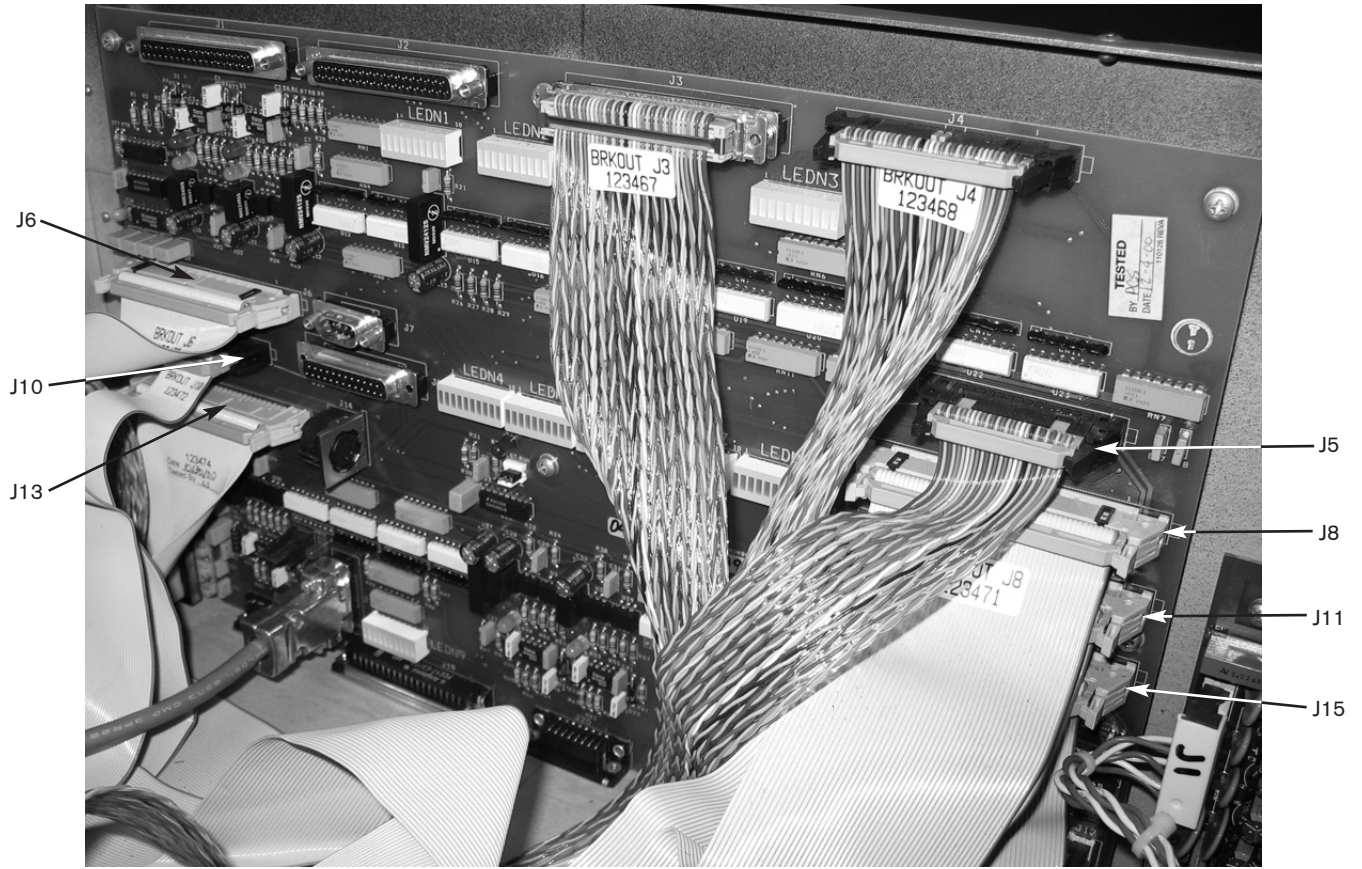
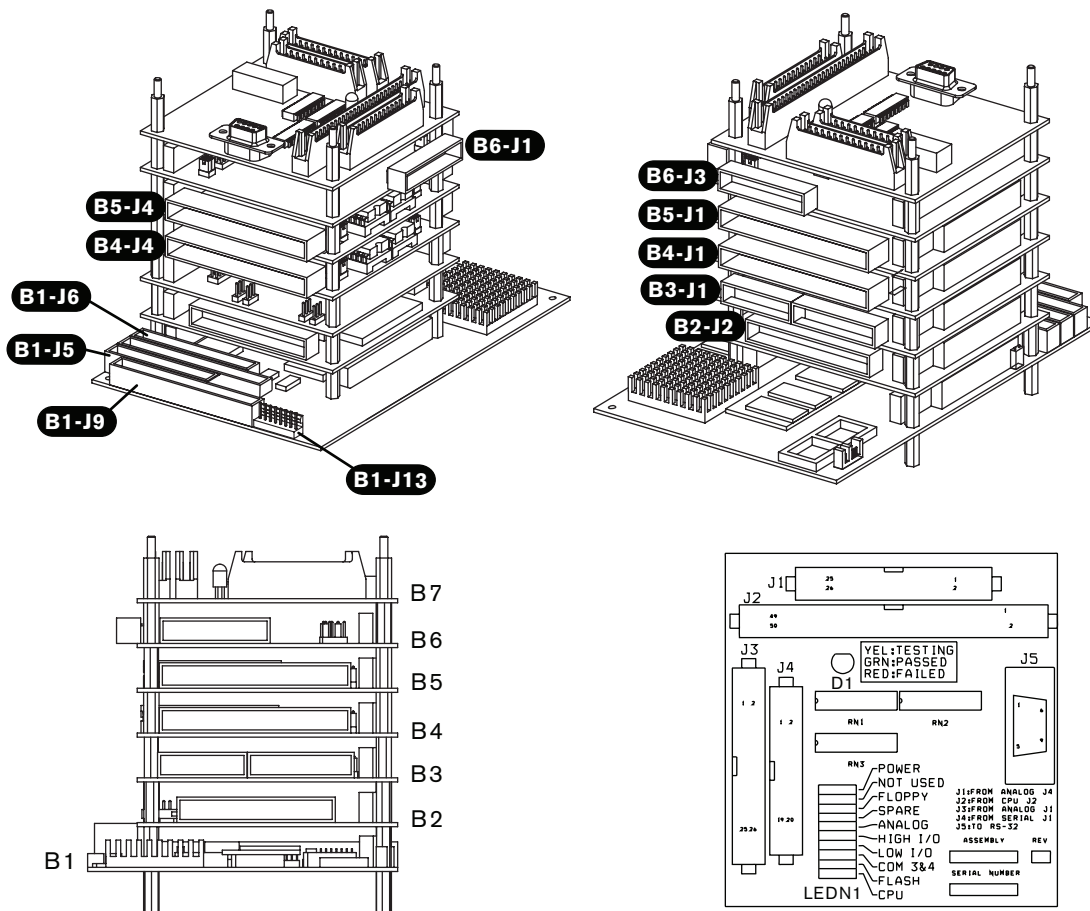

Figure 1 - Breakout board
Figure 4 - 141024 PC-104 stack
2. Remove the cables that lead to the PC-104 stack from the breakout board and the floppy drive in the following order (see figure 1). The power source cable is removed at the PC-104 stack (B1, J25). The connector on the end of the power cable is designated as P50.
4. Reinstall the PC-104 ribbon cable connectors to the breakout board and the floppy drive in the following order (see Figure 1 and Figure 4\*).